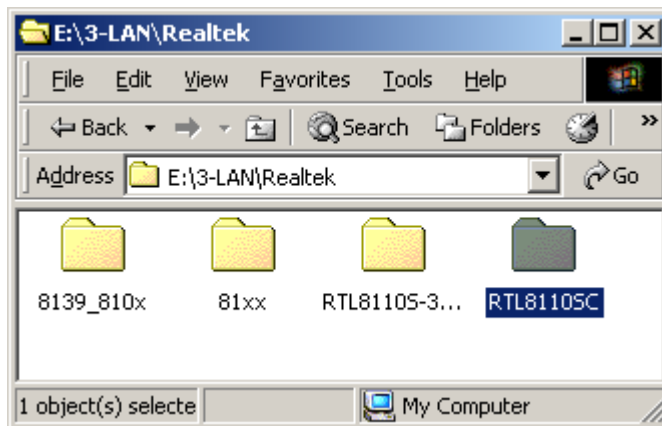

Figure 7-26: Realtek Folder
Step 3: Double-click the **Realtek** folder and a new window opens (Figure 7-26).